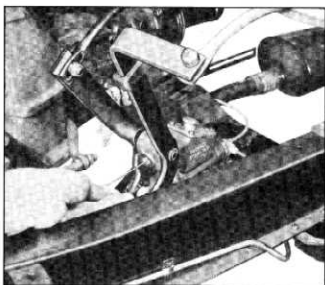

Fig. 25—Removing Lock Pin
3. Remove plug from forward end of main cylinder, insert a stiff wire into shaft lock pin and remove lock pin (fig. 25).